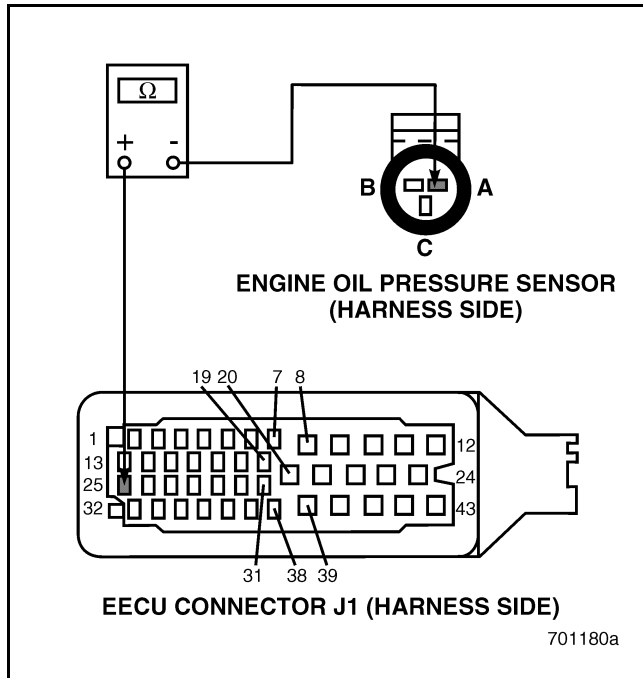

Figure 22
4. Check for continuity between EOP Sensor harness connector pin A (ground line) and EECU harness connector J1 pin 25 (see Figure 22).